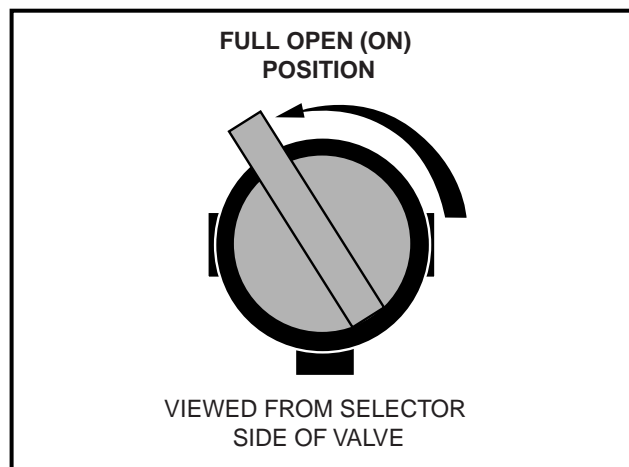
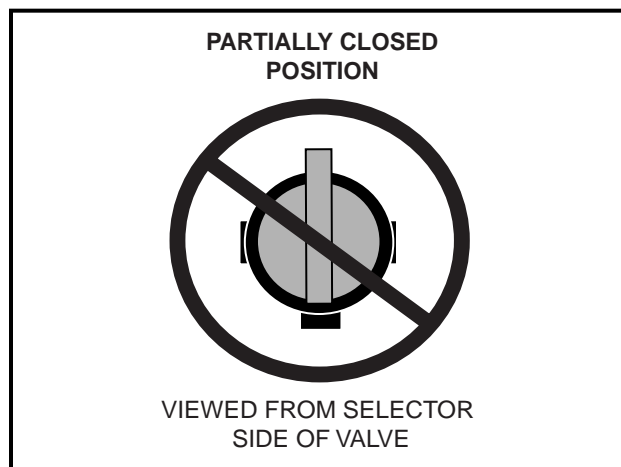

Figure 15 Fuel Shut-off Valve – Open
Figure 16 Fuel Shut-off Valve – Partially Closed Position
- 1.1. Remove plug from fuel tank vent nipple and COMPLETELY open fuel shut-off valve (**Figure 15, Page 25**). Make sure the valve is fully open. A partially closed fuel shut-off valve (**Figure 16, Page 25**) combined with the use of the choke, can result in a fouled spark plug and engine failure.